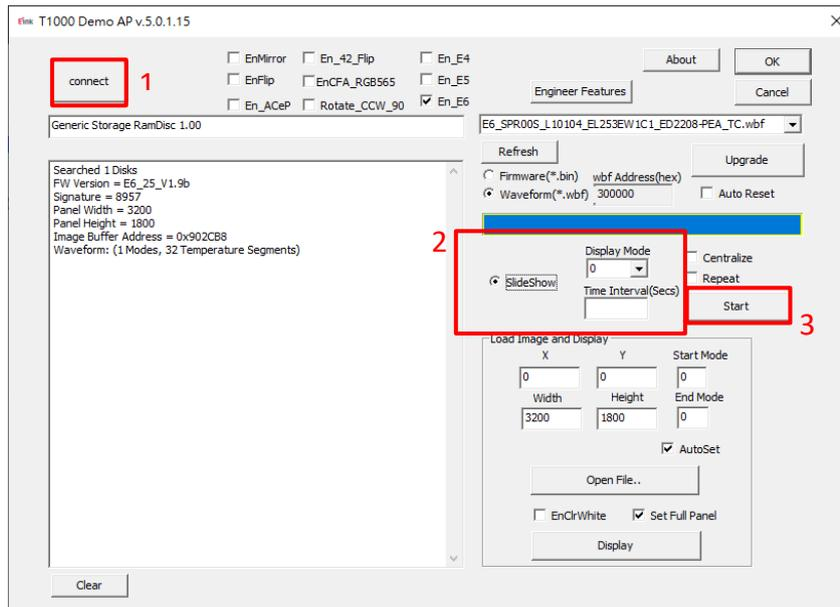

Figure 3.6
(4) How to slideshow
- ◆ Execute "T1000_Windows_AP_x.x.x.xx.exe" (refer to Figure 3.6)